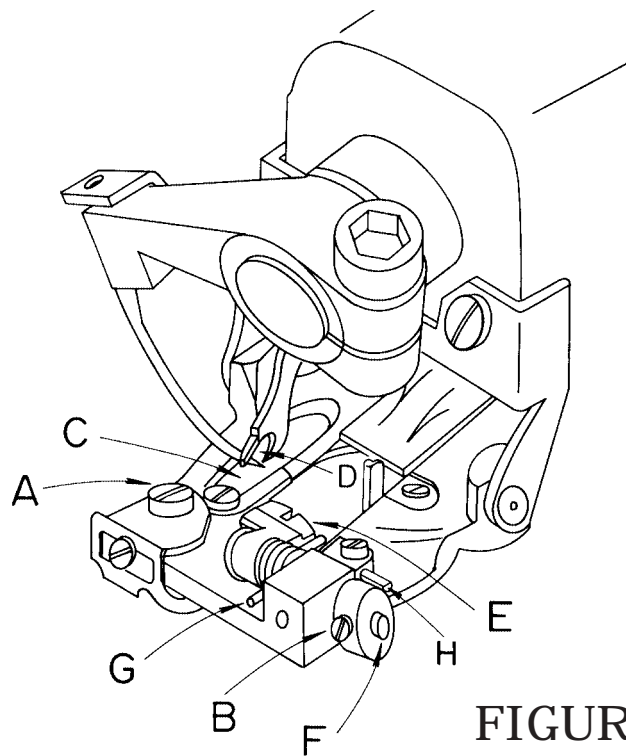

FIGURE 8
6. Once the looper is timed with respect to the needle as outlined in paragraphs 2 thru 5 above, slowly turn the handwheel in a direction away from the operator, until the looper approaches the edge of the looper slot. (**Point "C" in Figure 8**) in the presserfoot. At this point make sure the small prong of the looper clears this edge. If it does not clear, adjust the eccentric block as outlined in paragraph S until the interference is eliminated.
7. Continue turning the handwheel away from the operator until the point of the needle starts to enter the area in between the looper prongs. (**Refer to Point "D" in Figure 8**). If the needle strikes the crotch of the looper, the looper has generally been set too far forward. Check to see if the looper has been inserted into the clamp as far as it will go. It should be inserted until the shoulder on the looper is stopped on the clamp. If this check is satisfactory, recheck the distance from the center of the looper rod fork pin to the rear face of the looper rod ball. Refer to paragraph 4 and reset if necessary. If neither of the above two measures corrects the problem, it is possible that the needle lever may be set too low and required adjustment.
1. The shoe, (**item “E” in Figure 8**), also known as a cloth retainer, normally will not required replacement. However, in the event of wear due to the particular fabrics being used, or if the shoe or spring suffers any damage, they may be readily replaced.
2. The first step is to remove the complete front guide assembly by unscrewing the front guide holder attaching screw (**item “A” in Figure 8**). Next loosen the shoe pin and the shoe eccentric barrel lock screws, (**item “B” Figure 8**), and slide out the shoe pin (**item “F”**), shoe and retaining spring (**item “G”**). Before removing these components it is advisable to note the manner in which the spring is assembled so that it may be reinstalled in the same way.
3. When replacing an old shoe, make sure that the replacement shoe properly fits the pin without binding and without excessive looseness. In the event that the pin has worn and does not fit the new shoe properly, it should be replaced at the same time as the shoe-pin. After replacing the shoe, shoe pin spring into shoe eccentric barrel, retighten screws (*item "B" Figure 8*), and check to insure that the center of the shoe is lined up with the center of the rib. Also insure that the shoe clears both sides of the opening of the presser foot.
4. In and out position of shoe should now be checked. For light fabrics, shoe should be as close to needle as possible. For heavy fabrics with seam, shoe should be set back as far as possible from needle. To move shoe in and out turn eccentric barrel (*item "I" Figure 8*). After the correct location is established, be sure to tighten screws, (*item "B" Figure 8*).
4A. An additional shoe adjustment is also possible. The height of the shoe can now be controlled, (*item "H" in Figure 8*). This is a tapered pin and position can be adjusted so that the shoe, whenever required, can be controlled as far as elevation is concerned. By moving the tapered pin in or out the shoe can be kept from pressing down on some fabrics which require little, if any shoe pressure. By having this control, it sometimes will aid in penetration of difficult fabrics. The normal position of the shoe, when set properly on most fabrics, is that the shoe will show movement on the penetration cycle on one ply of fabric.